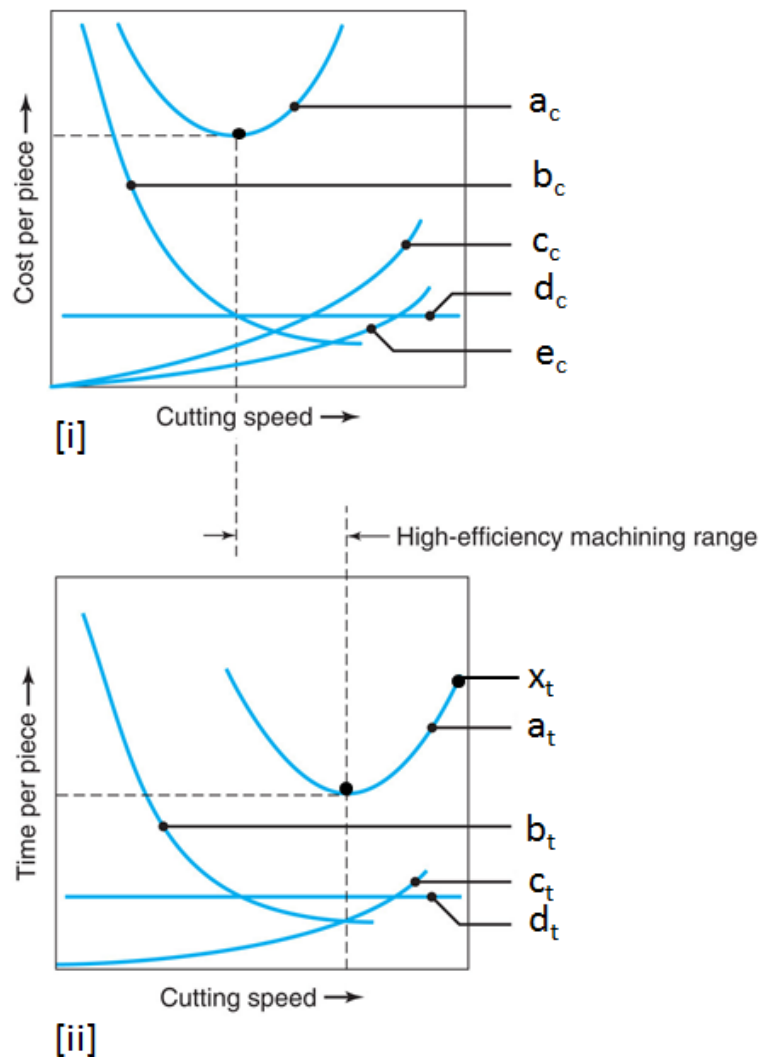

Figure 2[b]
- [b] Figure 2[b] shows the graph of cutting speed against [i] cost per piece and [ii] time per piece in the machining of motorcycle engine block. Given the a_c , b_c , c_c , d_c and e_c in Figure 2[b][i] represents the costs to determine the optimum cutting speed, while the a_t , b_t , c_t and d_t in Figure 2[b][ii] represents the time to determine the optimum cutting speed.
(i) Name a_c , b_c , c_c , d_c and e_c in Figure 2[b][i].
From Figure 2[b][ii], if the maximum cutting speed at point $x_t = 134.16$ m/min is twice the optimum cutting speed for maximum production, calculate the tool life constant value for this machining process.